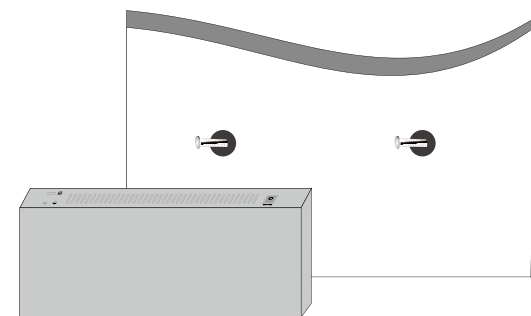

Figure 2-3 Wall Installation
**Step 1:** Punch 2 holes with a diameter of 5mm on the wall. The distance between the 2 holes is 110mm, and the line through them should keep horizontal, as illustrated in Figure 2-3;